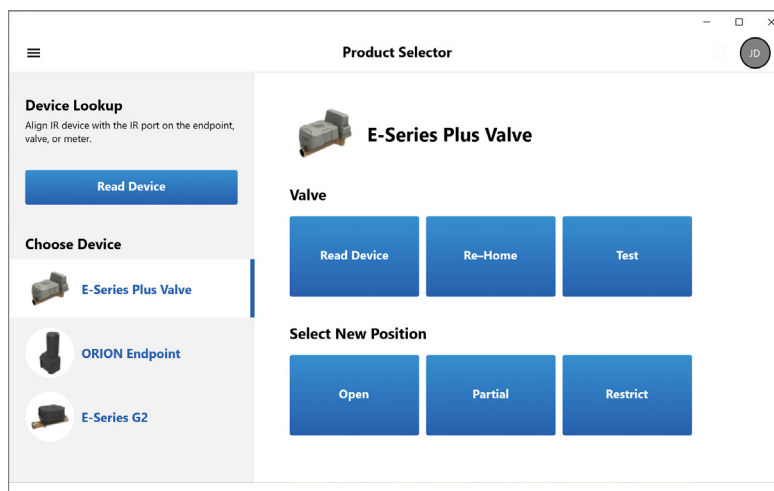

Figure 13: PCU Product Selector default screen
3. Sign in with your BEACON email and password. Then click **Sign In**. The software Product Selector main default screen opens (Figure 13).